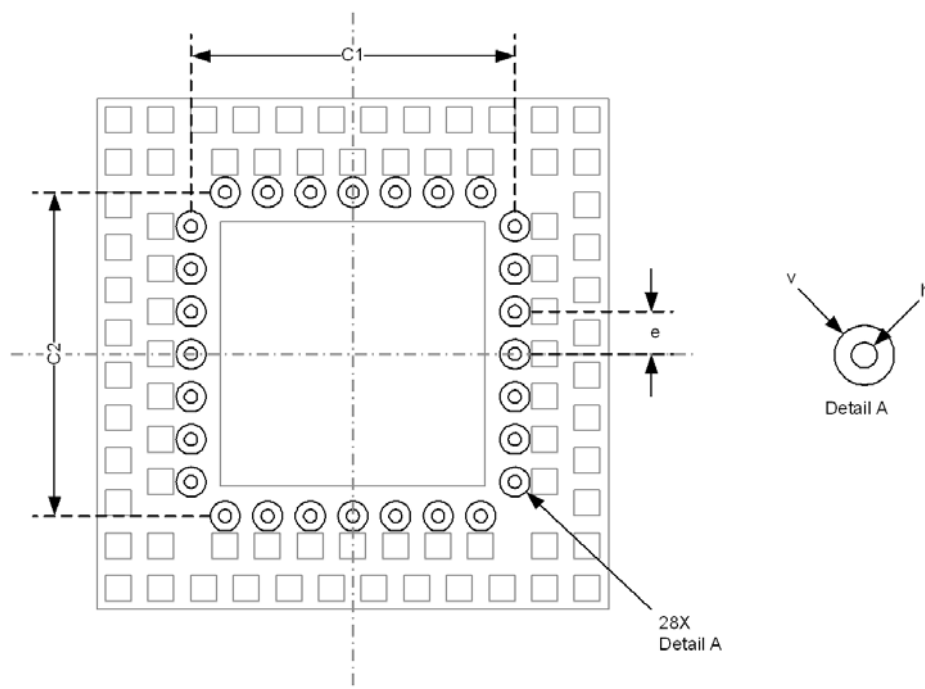

**Figure 3.6. Recommended Inner Via Placement**
1. Inner via placement per Figure 3.6.